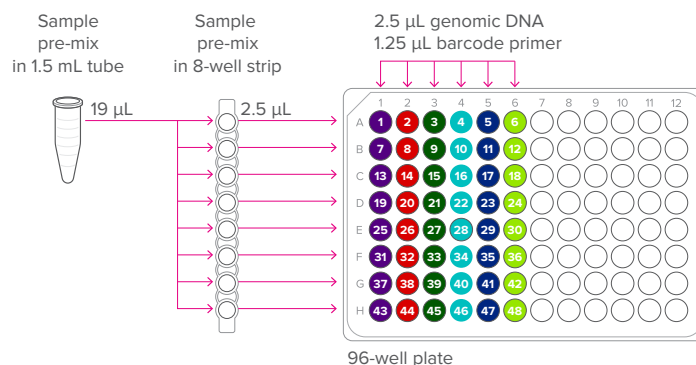

Figure 3. Preparation of sample mixes
- 4 Pipet 19 µL of the sample pre-mix into each well of a new 8-well strip (see Figure 3).
- 2 In a DNA sample hood, prepare the sample mixes by pipetting the components shown in Table 5 into each well of a new 96-well plate. Pipet reagents and samples according to the diagram shown in Figure 3. Use an 8-channel pipette to transfer the sample pre-mix from the 8-well strip.